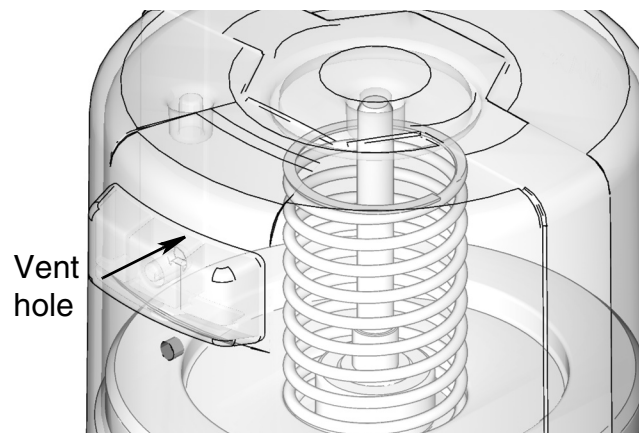

FIG. 13
3. Fill reservoir with grease until seal of follower plate breaches the vent hole (FIG. 13) and the majority of air is expelled from the reservoir.